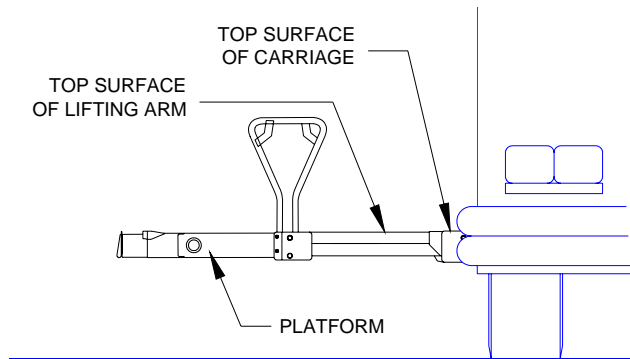

FIGURE 2-16: LIFTING ARM AND CARRIAGE AT SAME HEIGHT
- 2) Refer to **Figure 2-16**. Raise the platform to stow height; position the top surface of the platform lifting frame arm at the same height as the top surface of the carriage. If the exact height cannot be obtained, a slightly low platform is preferred to slightly high. This alignment eliminates interference between the platform and enclosure when pushing the platform into the enclosure.